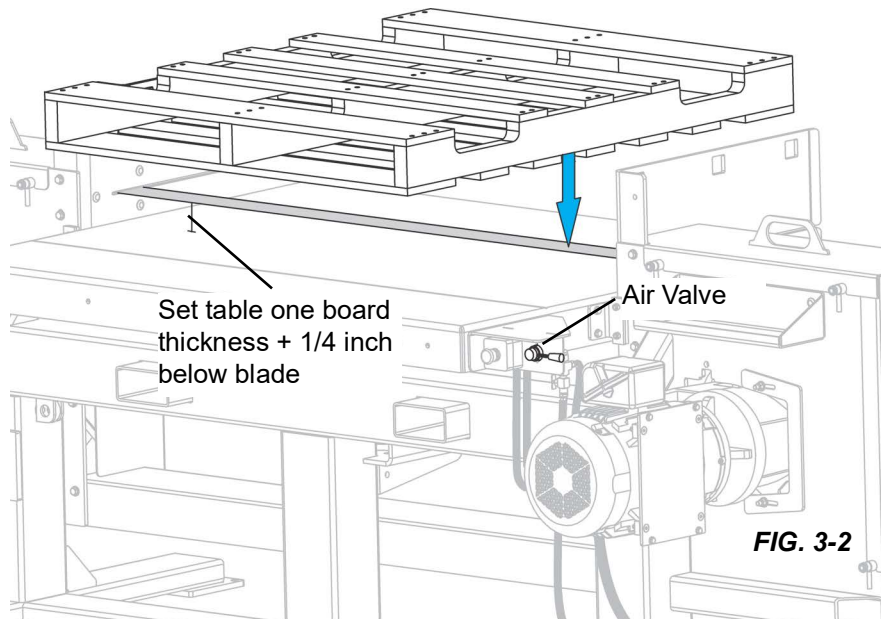

FIG. 3-2
14. Place half the pallet over the blade and lower the pallet so the blade is positioned between two deck boards. (See figure 3-2.)